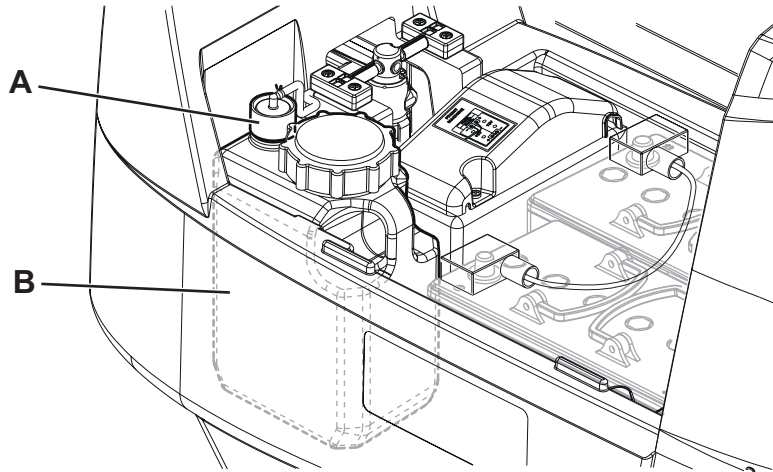

Figure 14
2. Ensure that the machine is off and the operator key (41) has been removed.
3. Lift the cover (34) and check that the recovery tank (33) is empty; if not, empty it using the drain hose (12).
4. Close the cover (19).
5. Grasp the handle (16) and carefully lift the tank (33).
6. Unscrew the cap (A, Fig. 14) from the detergent tank (B).
9. Replace the detergent tank (B) as shown in the figure, then refit the cap (A).